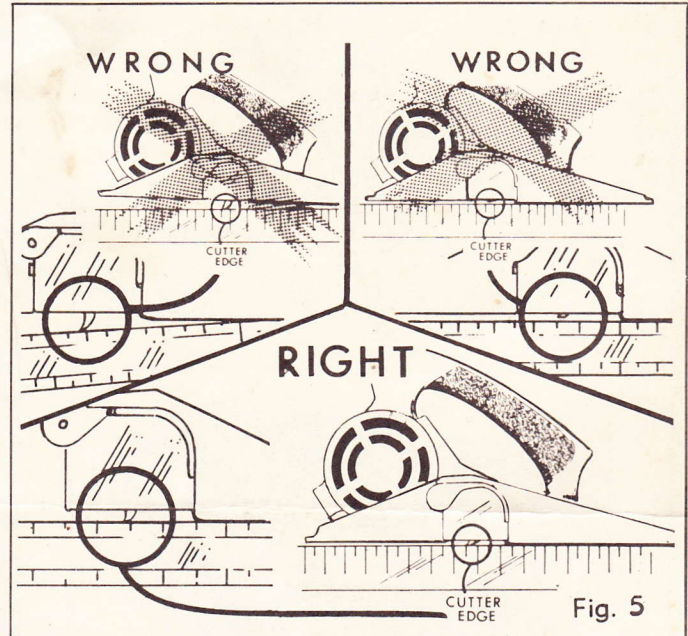

Fig. 5
6. If, when the cutter is turned, the tips of the cutting edges raise the straight edge from the surface of the base (See Fig. 5), move the base away from the cutter using base stop screw (See Fig. 4). Recheck to see if tips of cutter still raise the straight edge. Re-adjust, if necessary, until the tips of the cutting edges while it is resting on the rear section of the base (See Fig. 5). When alignment is satisfactory, tighten base locking screw, and side locking screw securely. Always apply pressure to base maintaining contact with base stop screw.
7. If, when the cutter is turned, the tips of the cutting edges are below the straight edge, loosen base stop screw to move base toward cutter. Recheck, and if necessary, adjust base stop screw until the tips of cutting edges just touch the straight edge as the cutter is turned. The base is properly aligned when the cutting edges of the cutter are in line with rear section of the base as shown in Fig. 5. When alignment is satisfactory, tighten base locking screw and side locking screw securely.
THE BASE ALIGNMENT IS EXTREMELY IMPORTANT. IF THE CUTTING EDGES ARE EITHER ABOVE OR BELOW THE REAR SECTION OF THE BASE, A "WAVY" OR "UNEVEN" CUT WILL RESULT (See Fig. 6). ALSO, IF THE BASE IS INCORRECTLY ADJUSTED, THE BELT WILL BREAK OR THE BELT COGS WILL SHEAR OFF, THEREFORE, DO NOT EXCEED 1/64" DEEP CUT IN ONE PASS. STUDY FIG. 5 CAREFULLY BEFORE ATTEMPTING TO MAKE BASE ALIGNMENT.